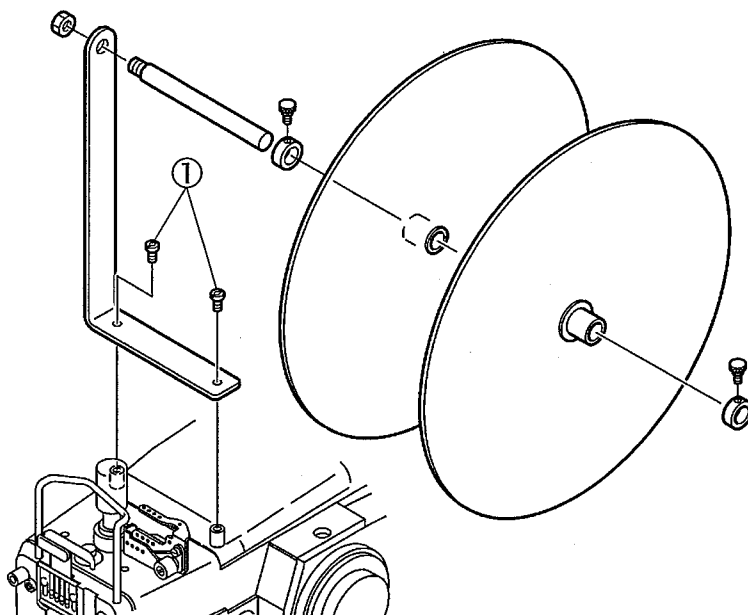

Fig. 1
Assemble the tape reel and install it onto the arm top cover with the screws① by referring to Fig. 1.